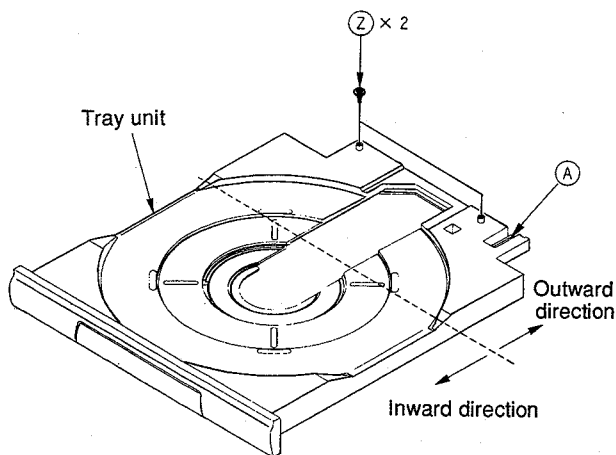
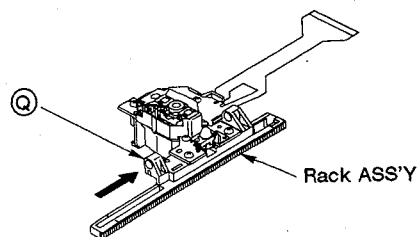

Fig. 2-1
Fig. 2-3
1. Remove the two fixing screws **Z** (Fig. 2-1).
3. Pull out the tray unit while pressing the hook **A** (Fig. 2-1), located on the rear right side of the tray unit, to the left.
2. Make sure that the position of the lens in the pickup assembly is such that the lens stops outside the position indicated by the dotted line in Fig. 2-1.
- When the lens stops inside the dotted line, slowly press the **Q** portion of the rack assembly (Fig. 2-3) to move the lens in the pickup assembly until the lens is outside the position indicated by the dotted line in Fig. 2-1.
3. Slowly press the (Q) portion of the rack assembly (Fig. 2-3) to move the lens in the pickup assembly until the lens is outside the position indicated by the dotted line in Fig. 2-1.